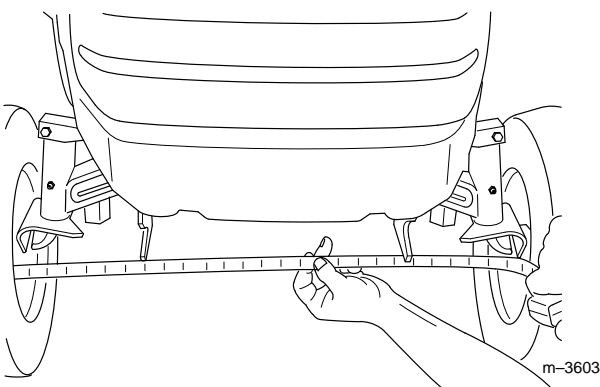

Figure 42
Maintaining correct front wheel toe-in is important for safety, Automatic Speed Reduction operation, and ease of use. If uneven tire wear, lawn scuffing or hard steering develop, adjustment may be required. Check the toe-in after every 100 operating hours or once a year, whichever occurs first (Fig. 42).
4. Measure the distance between both of the front tires at spindle level (at the front and rear of the wheels) (Fig. 42).